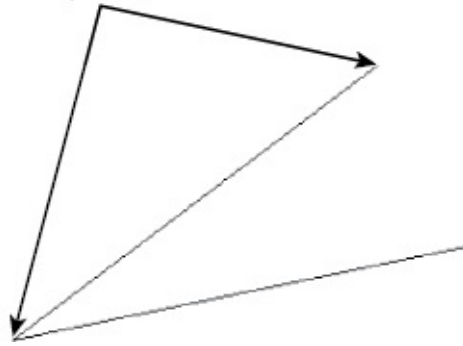

FIGURE 14.32 Select these points to find a point that is one-third the distance from an endpoint.
3. Click the endpoints of the line shown in Figure 14.32, starting with the lower-left endpoint. QuickCalc returns with the coordinates of a point that is 33.33 percent of the length of the line from the first endpoint that you selected.